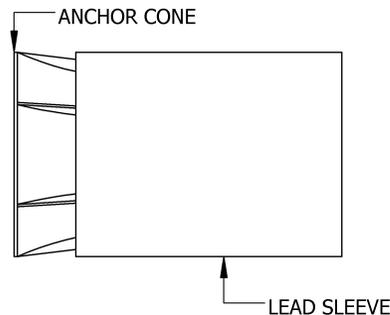

FIGURE 2
4. Place smaller lead anchor in back hole, and larger lead anchor in front hole. Place both with anchor cone down. (See Figure 2).